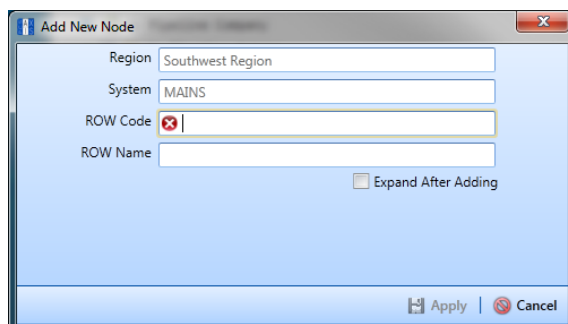

Figure 3-4. Add New Node
- 3 Click  **Add** to open the *Add New Node* dialog box (Figure 3-4). Right-clicking the selected hierarchy folder and selecting *Add* in the shortcut menu also opens the *Add New Node* dialog box.
- 4 Enter a pipeline code for the new pipeline in the **ROW Code** field. Fields requiring information include a  red icon, such as *ROW Code* in the previous figure (Figure 3-4).